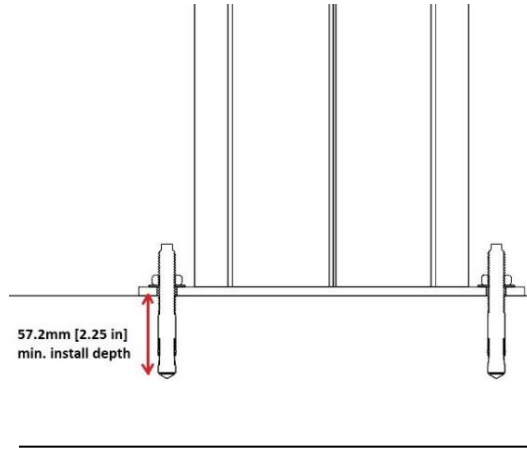

Figure 3 - Wedge anchors secure Pedestal when installed in concrete 2.25 inches
3. Pedestal should be mounted on a concrete pad or driveway that is 4 inches thick or thicker. The wedge anchors will secure the charger to the concrete when the anchors are installed to a depth of 2.25 inches (Figure 3).